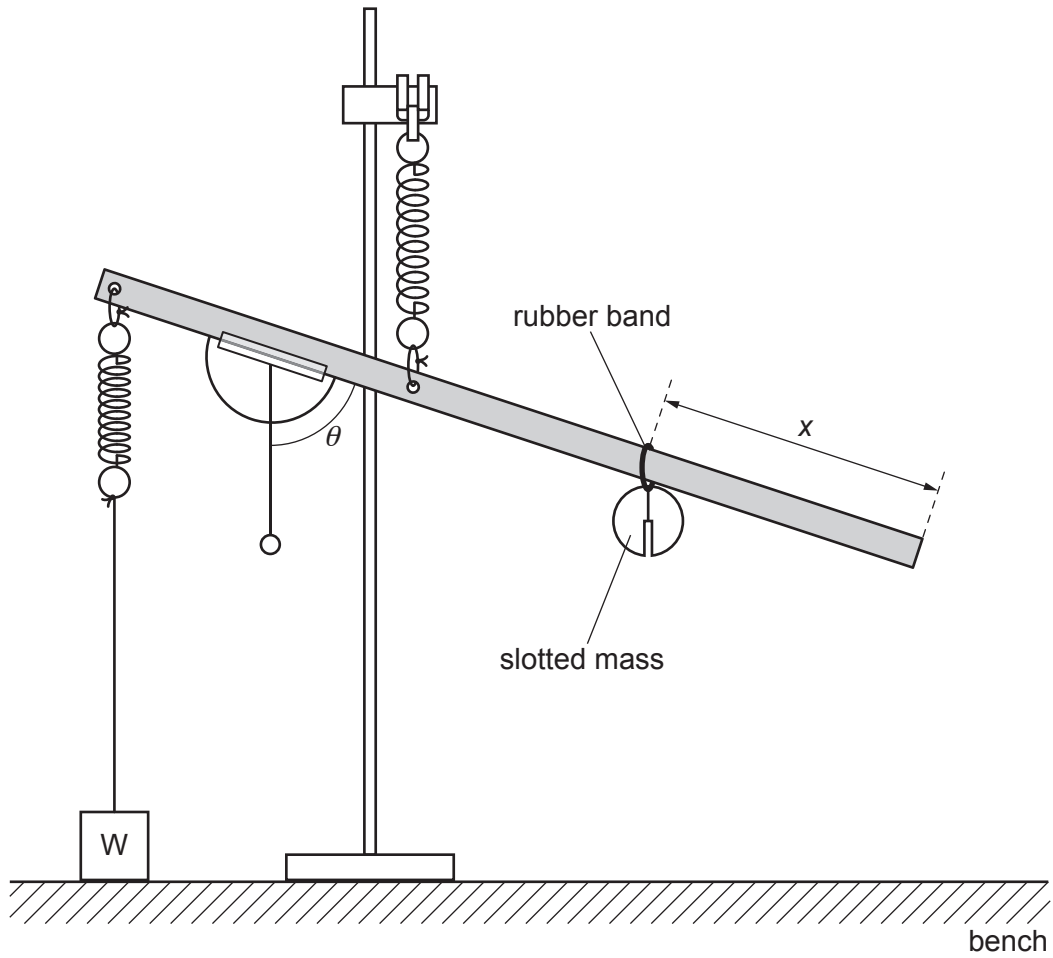

Fig. 1.2
- Slide the rubber band and slotted mass onto the rule so that the rubber band is approximately 30 cm from the end of the rule. The rule will tilt down, as shown in Fig. 1.2.
- The distance between the rubber band and the end of the rule is  $x$ , as shown in Fig. 1.2. Measure and record  $x$ .
- The angle indicated by the plumb-line on the protractor scale is  $\theta$ , as shown in Fig. 1.2. Measure and record  $\theta$ .